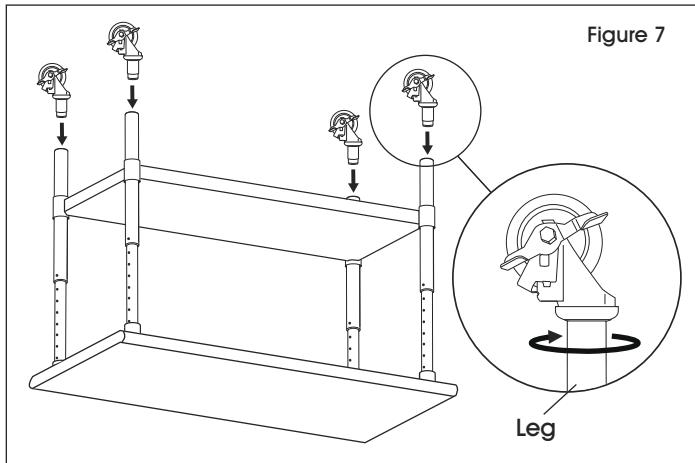

Figure 7
4. With caster fully inserted into the leg, turn clockwise until caster is secured to leg. (See Figure 7)